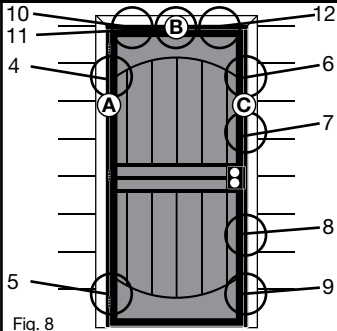

Fig. 8
Fig. 8 - Remove screws on pre-hang brackets and remove brackets. Through the remaining holes in the Z-bar jambs (A & C) and top/head jamb (B), drill a 5/32" hole approximately 1/2" into the doorway trim. Insert mounting screws into holes (4-12) and tighten.